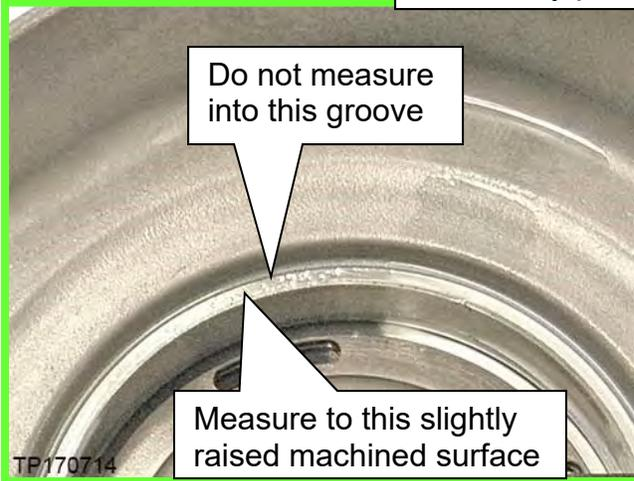
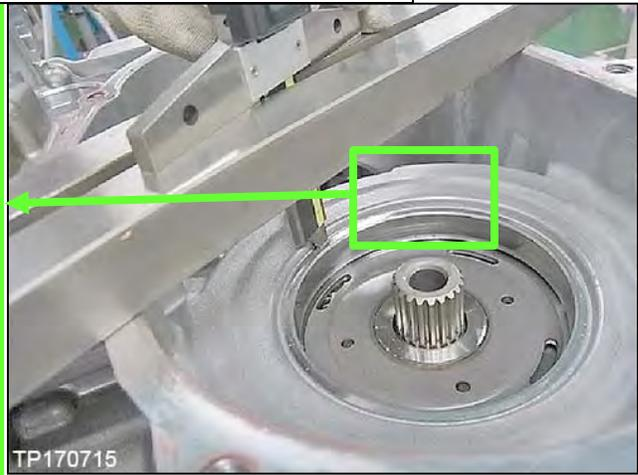

Figure 134
Figure 135
- a. Measure between the top of the Gauge Block (J-50271) to where the snap ring on the secondary pulley bearing seats in three (3) locations to calculate an average for measurement “Y” (Figure 134 and Figure 135).